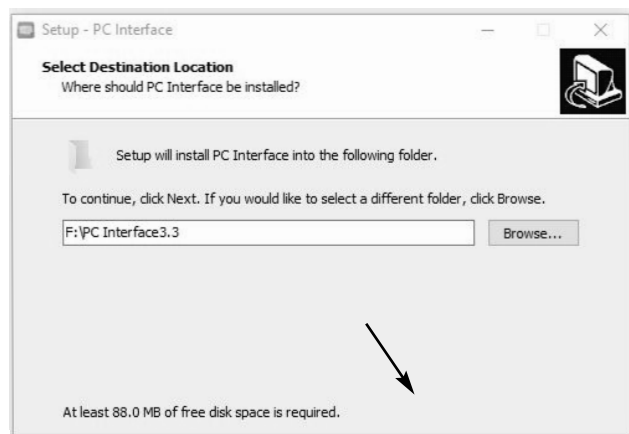

Figure 10-3. Installation Location
4. A prompt window appears to verify installation location. The default location is indicated in Figure 10-3, or the user can **Browse** to a more desirable location.
5. Make sure you have enough disk space to install the software (Figure 10-3). If not, you will see an error message. Select **Next**.